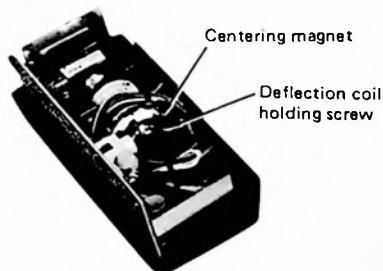
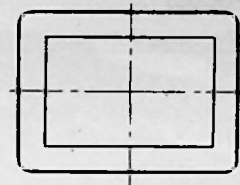

Fig. 4-5-1
Fig. 4-5-2
- Loosen the deflection coil holding screw. (Fig. 4-5-1)
- Adjust the centering magnets (see Fig. 4-5-1) until the center of picture (raster) comes to the center of the viewfinder screen. (Fig. 4-5-2)